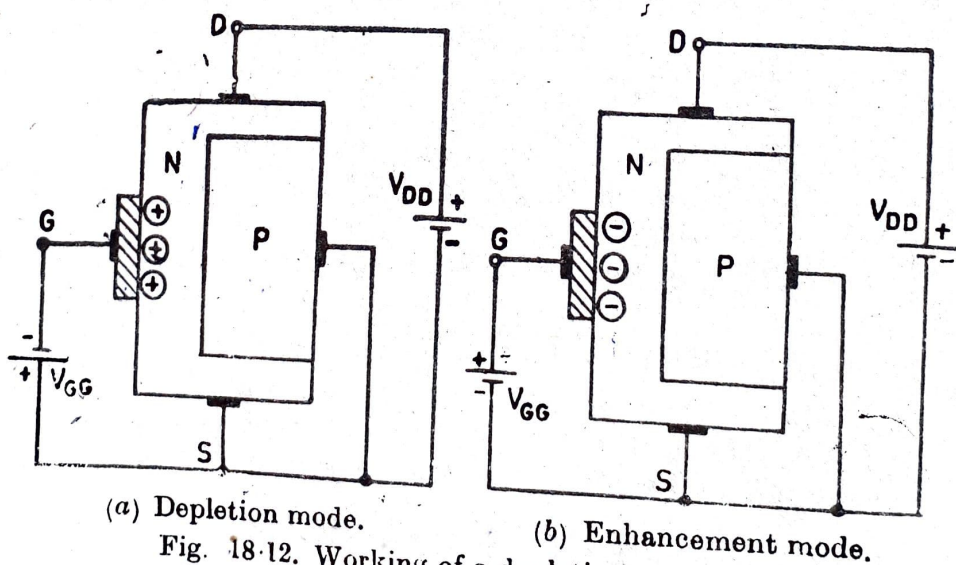

Fig. 18.12. Working of a depletion-type MOSFET.
1. *Depletion mode.* Fig. 18.12 (a) shows a MOSFET with a negative gate-to-source voltage. The negative voltage, on the gate, induces a positive charge in the channel. Because of this, free electrons in the vicinity of positive charge are repelled away in the channel. As a result of this, the channel is depleted of free electrons. This reduces the number of free electrons (which constitute the drain current) passing through the channel. Thus as the value of negative gate-to-source voltage is increased, the value of drain current decreases. At a sufficient negative value of gate-to-source voltage, called $V_{GS}(\text{off})$, the channel is totally depleted of free electrons and therefore the drain current reduces to zero. Thus with the negative gate voltage, the operation of MOSFET is similar to that of a JFET.
2. *Enhancement mode.* Fig. 18.12 (b) shows a MOSFET with a positive gate-to-source voltage. The positive gate voltage increases the number of free electrons passing through the channel. The greater the gate voltage, greater is the number of free electrons passing through the channel. This increases *i.e.* enhances the conduction of the channel. Because of this fact, positive gate operation is called enhancement mode.